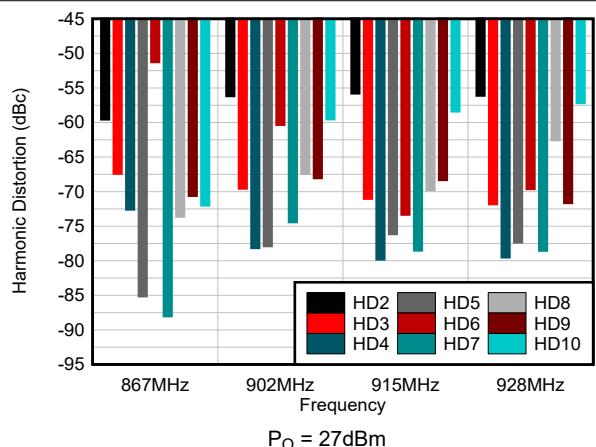

Figure 5-4. Harmonic Distortion Across Frequency
(1) No external filter on ANT pin. Refer to Figure 5-4 for higher order harmonic performance.
(2) Sum of currents into the VCC_PA and VCC pins.